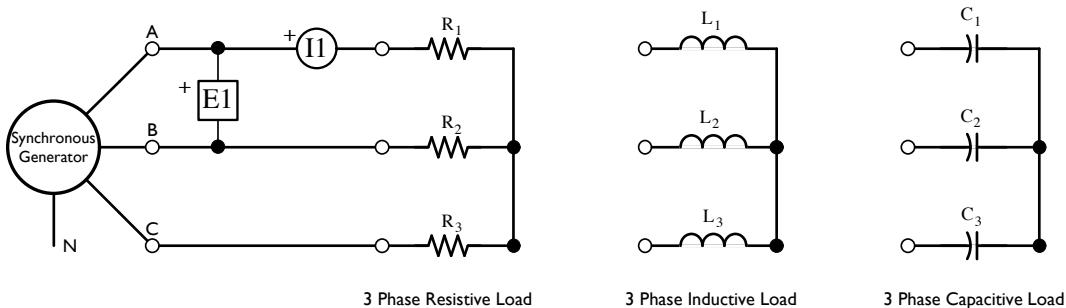

Figure 5.6: Synchronous Generator under Load
25. Remove resistor R_1 from the field circuit, and add a three-phase y-connected resistive load and ammeter I_1 to the output of the generator as shown in Figure 5.6. Use the 40A scale for I_1 .